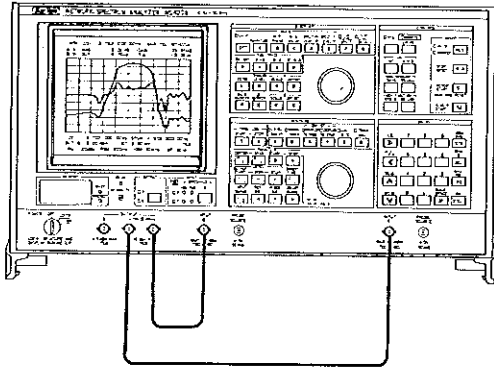
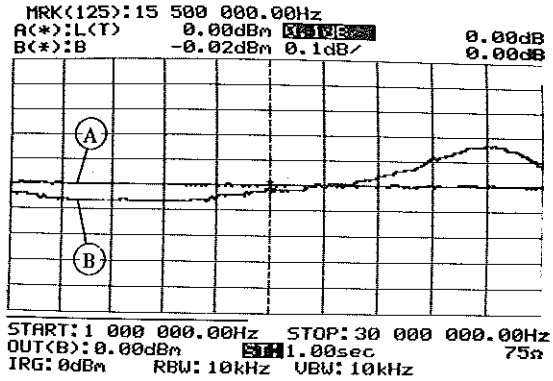

Fig. 2-52 Connection for Calibration
Fig. 2-53 Calibration Display
When magnitude is measured with the connection diagram shown in Fig. 2-52 waveform (B) of Fig. 2-53 is displayed on the CRT. This measured value shows the frequency response of the MS420[ ] itself. To eliminate this frequency response, do the following.
4.	Wait for the waveform (A) shown in Fig. 2-53 to appear on the CRT.